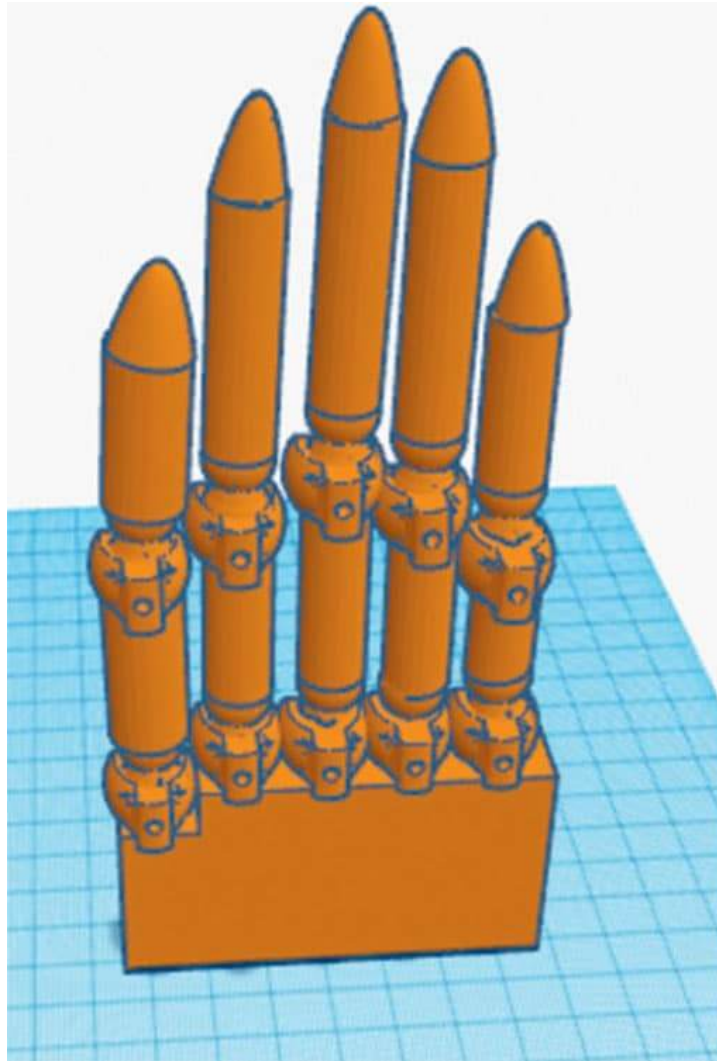

FIG. 6: *The CAD view of the assembled hand with fingers and palm.*
- Assemble all the knuckles by putting balls into sockets (fig. 6).